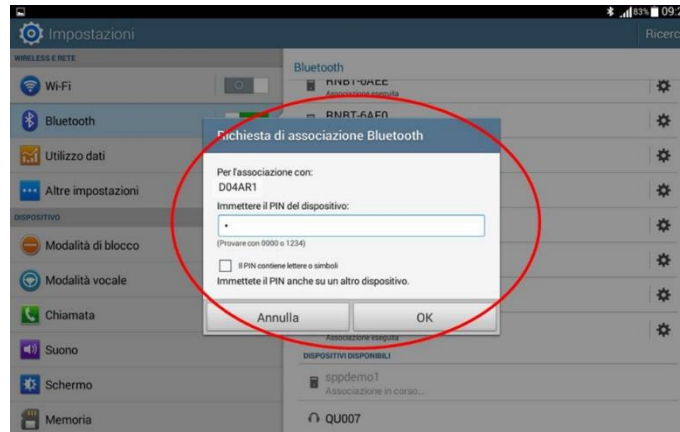

FIG. 8.4: Devices list that is required to pair (red circle).
- Select the probe (Due or DueBio) you want to pair with. A pop-up window similar to the one in the figure 8.4 appears;